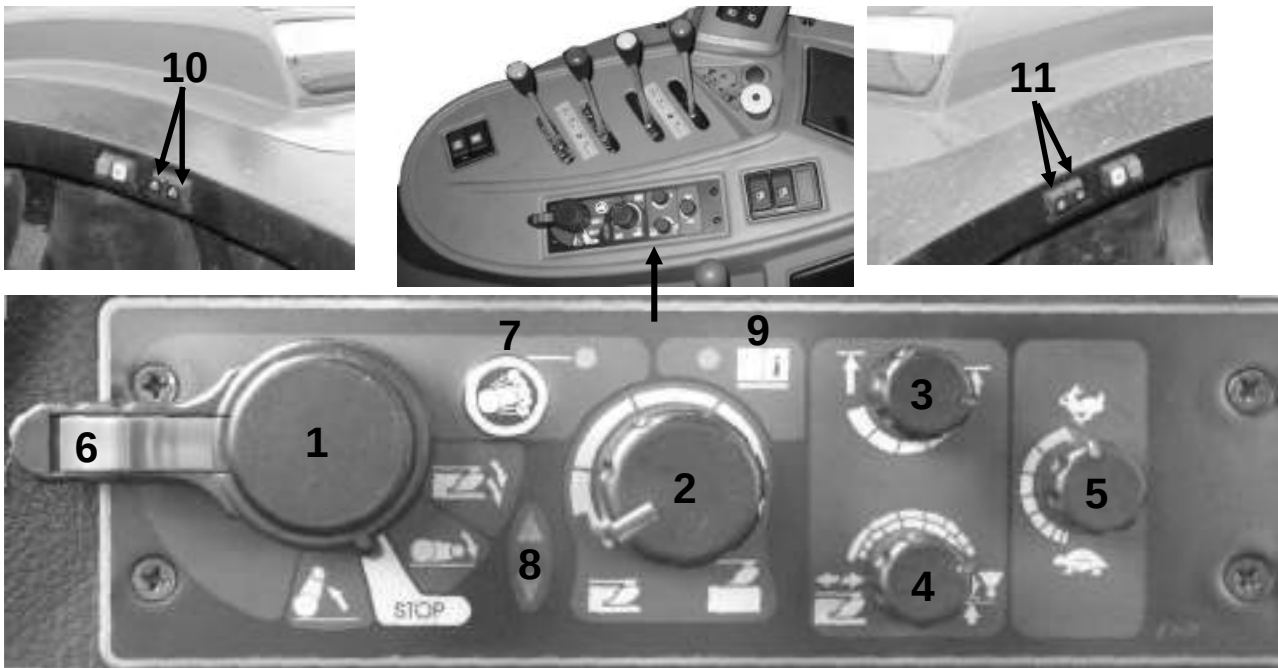

Figure 5-20 EHR electrohydraulic control system panel.
Control of the rear three point lift with the electro-hydraulic system is with the aid of the control pulpit (Figure 5-20) located on the right side of the seat and additional arm lift and lower buttons on the rear of the mudguards on right and left sides of tractor (Figure 5-20, item 10) (they are used during linking machines and agricultural implements).
- using knob **4** (Figure 5-20) - depending on the type of fieldwork, determine the means of implement adjustment (positional, power or mixed);
ATTENTION: Do NOT use tractor in the event of hydraulic pump malfunction, if the light **8** (Figure 5-20) is not extinguished after lifting implement.
- lever **1** (Figure 5-20) set in "lifting" position (then implement is raised to the extreme upper setting) and button **6** to lock implement in transport position;
ATTENTION: Vibration suppression function acts only by setting of lever **1** (Figure 5-20) in "lifting" setting in transport position with button **6**. During fieldwork (ploughing, cultivation etc.) vibration suppression function should be switched off.